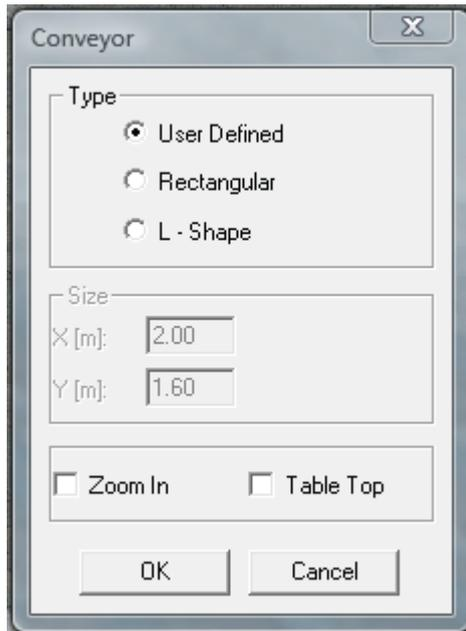

Figure 8-11: Conveyor Dialog Box
2. From the General tree, select Conveyor and then click OK. The Conveyor dialog box is displayed, as shown in Figure 8-11: Conveyor Dialog Box.
2. From the **General** tree, select **Conveyor** and then click **OK**. The Conveyor dialog box is displayed, as shown in Figure 8-11: Conveyor Dialog Box.